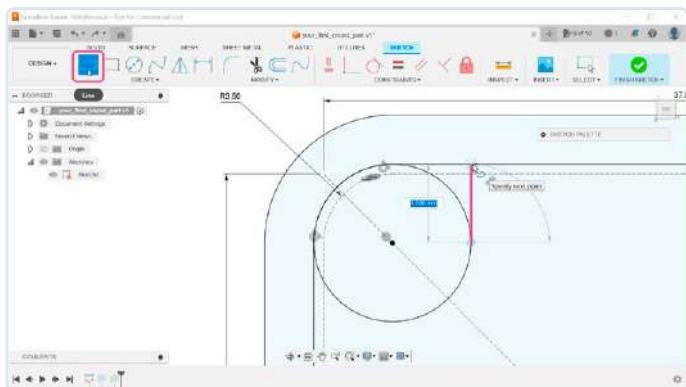

Figure 10: Shaping the support using the Line tool.
10) The area between the circle and the wall is very thin (**Figure 10**) and will be difficult to manufacture. We can close it by drawing more shapes with a line tool. In the toolbar, select the *Line* tool and move the cursor over the circle's center. After that, keep moving the mouse cursor to the right side until you reach the circle. In that position, draw the first point of the line. Move the mouse cursor to the top until you reach the wall. In that position, draw a second point on the line. Make sure that the movement is somehow straight — that will tell Fusion 360 to add any necessary constraints automatically.